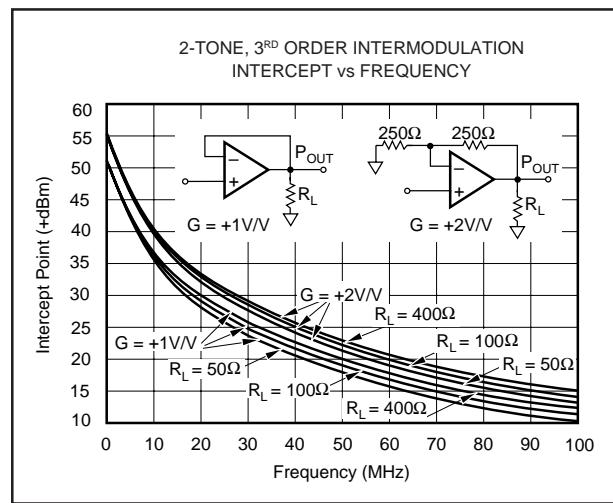

FIGURE 9. 2-Tone, 3rd Order Intermodulation Intercept vs Frequency.
Two-tone third-order intermodulation distortion (IM) is an important parameter for many RF amplifier applications. Figure 9 shows the OPA620's two-tone third-order IM intercept vs frequency. For these measurements, tones were spaced 1MHz apart. This curve is particularly useful for determining the magnitude of the third-order IM products as a function of frequency, load resistance, and gain. For example, assume that the application requires the OPA620 to operate in a gain of  $+2V/V$  and drive  $2Vp-p$  (4dBm for each tone) into  $50\Omega$  at a frequency of 10MHz. Referring to Figure 9 we find that the intercept point is  $+40dBm$ . The magnitude of the third-order IM products can now be easily calculated from the expression: